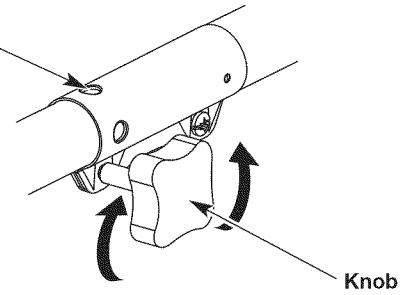
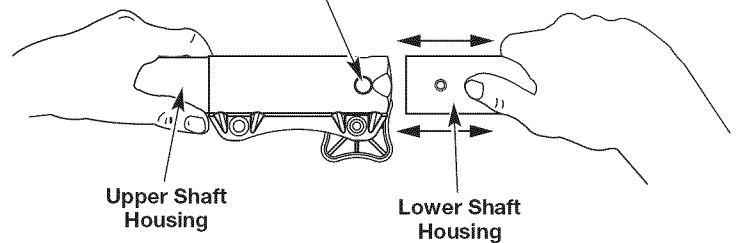

Fig. 3
Fig. 5
1. Turn the knob counterclockwise to loosen (Fig. 3).
2. While firmly holding the trimmer attachment or other attachment, push it straight into the Convertible™ coupler until the release button snaps firmly into the primary hole (Fig. 5).
3. Turn the knob clockwise to tighten (Fig. 3).
CAUTION: Before operating this unit, be sure that the release button is fully snapped into the primary hole (Fig. 5), and that the knob (Fig. 3) is securely tightened.
For decorative edging with the line head trimmer attachment, lock the release button of the attachment into the 90° hole (Fig. 3).
3. While firmly holding the upper shaft housing, pull the trimmer attachment or other attachment straight out of the Convertible™ coupler (Fig. 5).